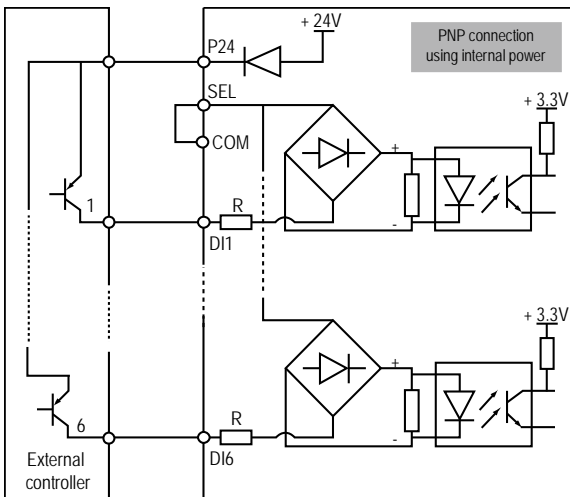

Figure 4-18 PNP signal input connection when using internal 24V power
4. If the inverter's internal +24V power supply is used, the common emitter output connection of the PNP transistor in the external controller is as shown in Figure 4-18. (Note that the SEL and the P24 are not short-circuited)